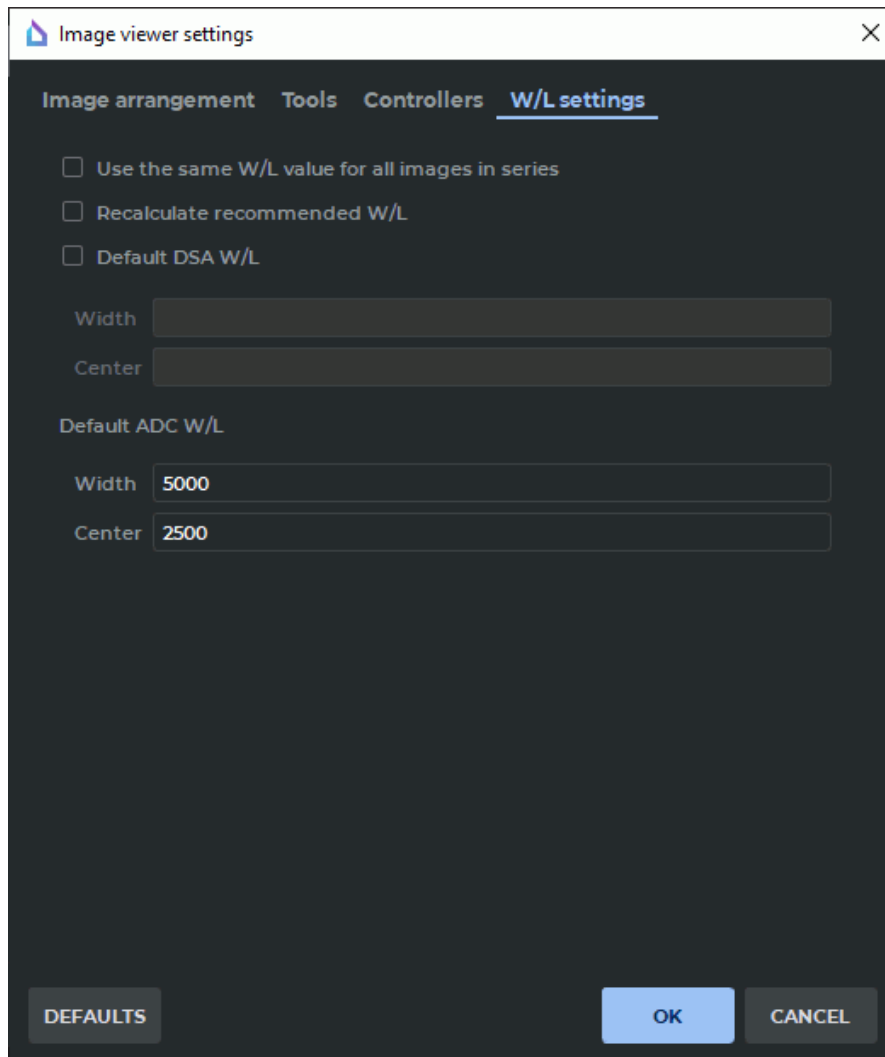

Figure 2.26: Image viewer settings dialog box
3. From the **Image viewer settings** window, go to the **W/L settings** tab (Figure 2.26).